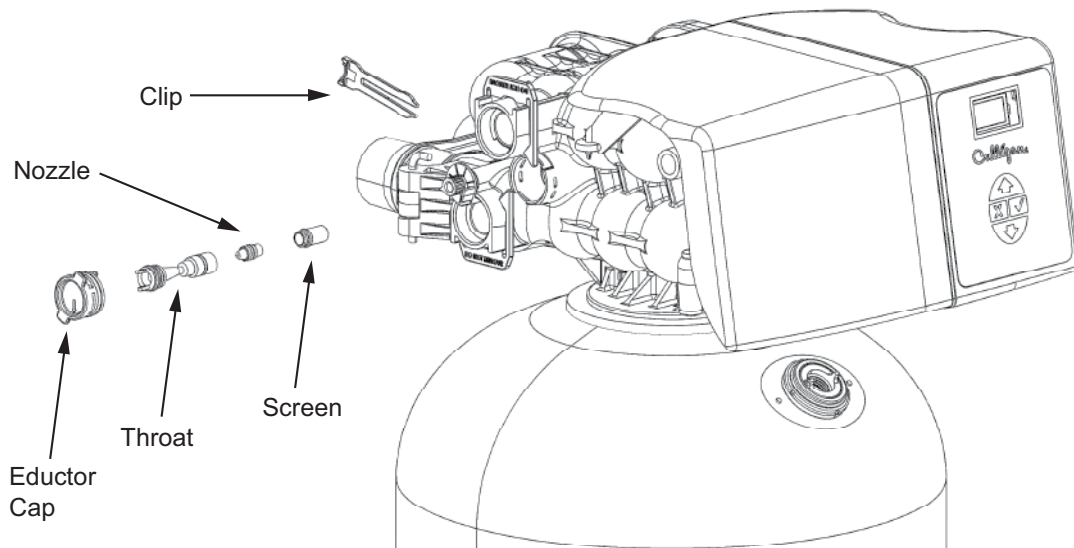
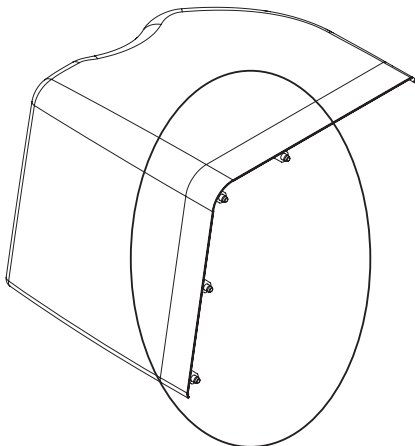
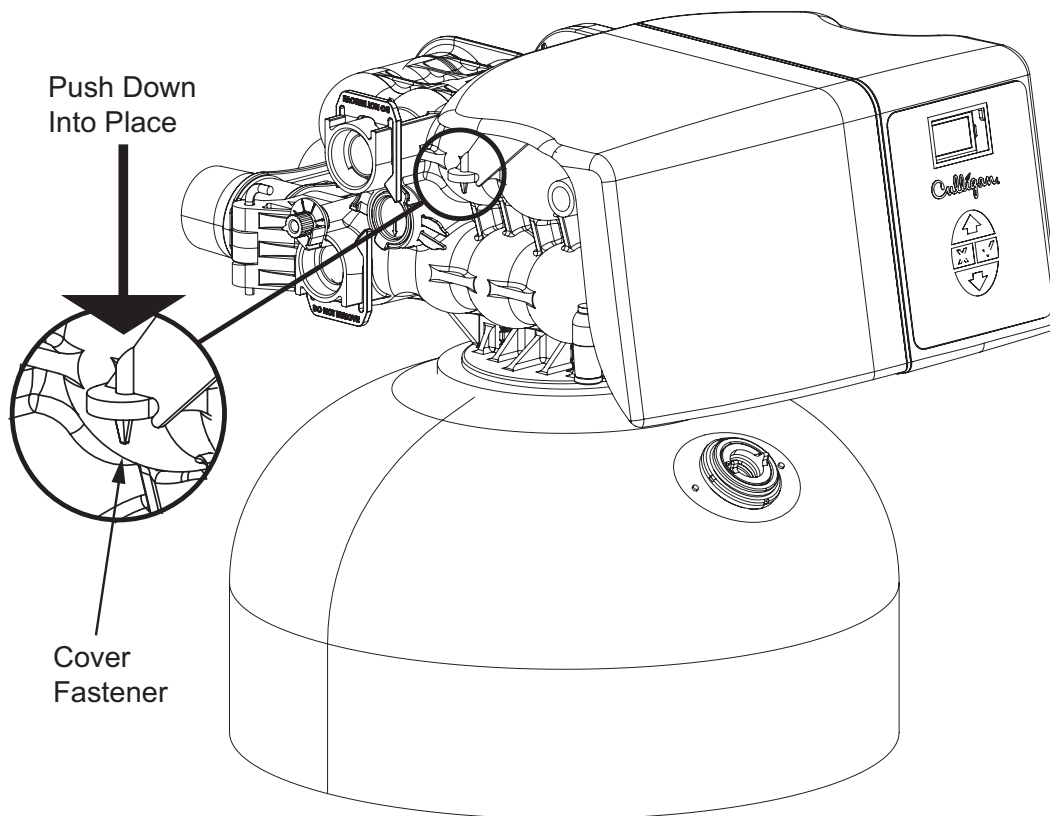

Figure 10. Removing the eductor nozzle and throat.
Figure 14. Cover fastener clip.
Figure 16. Reattaching the cover fastener.
Refer to Figure 10 through Figure 14 and instructions below for changing the backwash flow control, eductor nozzle, and eductor throat.
Refer to Table 5, Figure 10 and the instructions below when changing the eductor nozzle and throat.
Once the drain and brine line is connected re-attach the cover. Refer to the below instructions and Figure 14 through Figure 16.
1. Insert the two pins on the top of the cover into the two holes on top of the frame; the cover should be slightly angled. See Figure 14.
3. Attach the cover fastener onto the control valve. See Figure 16.